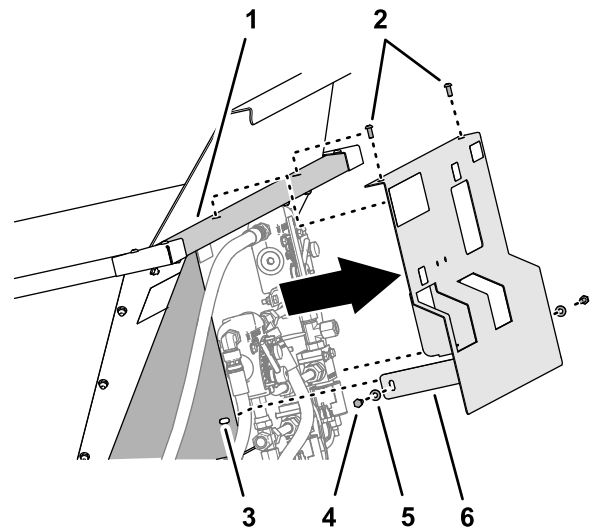

Figure 25
- Align the holes in the hydraulic guard with the holes in the valve mount and the front wall of the hopper (Figure 25).
- Secure the hydraulic guard to the hopper wall (Figure 25) with the 2 button-head screws that you removed in Removing the Top Dresser Hydraulic Guard (page 9).